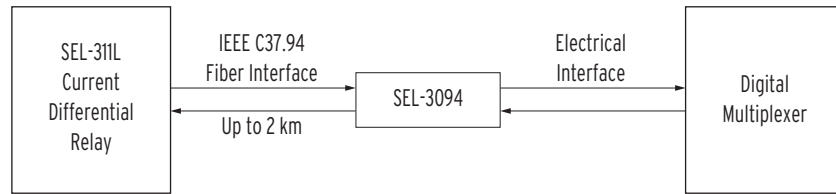

Figure 15 SEL-3094 Connecting a Noncompliant Digital Multiplexer With an SEL-311L Relay
- Step 4. Make the fiber-optic connections between the SEL-3094 and the relay by connecting a fiber between the relay C37.94 transmit (TX) connector and the SEL-3094 **FIBER IN** connector. Repeat this step for the remaining fiber connection. The green **FIBER IN** LED should now illuminate. If the electrical interface is ITU-T G.703, the green **ELECTRICAL OUT** LED should illuminate.
- Step 5. Make the electrical connection between the SEL-3094 and the multiplexer. Use the recommend SEL cable or wire per *Figure 8* through *Figure 15*. The Form B **ALARM** contact should open, and the green **ELECTRICAL IN** LED should illuminate. If the electrical interface is EIA-422, the green **ELECTRICAL OUT** LED should illuminate.